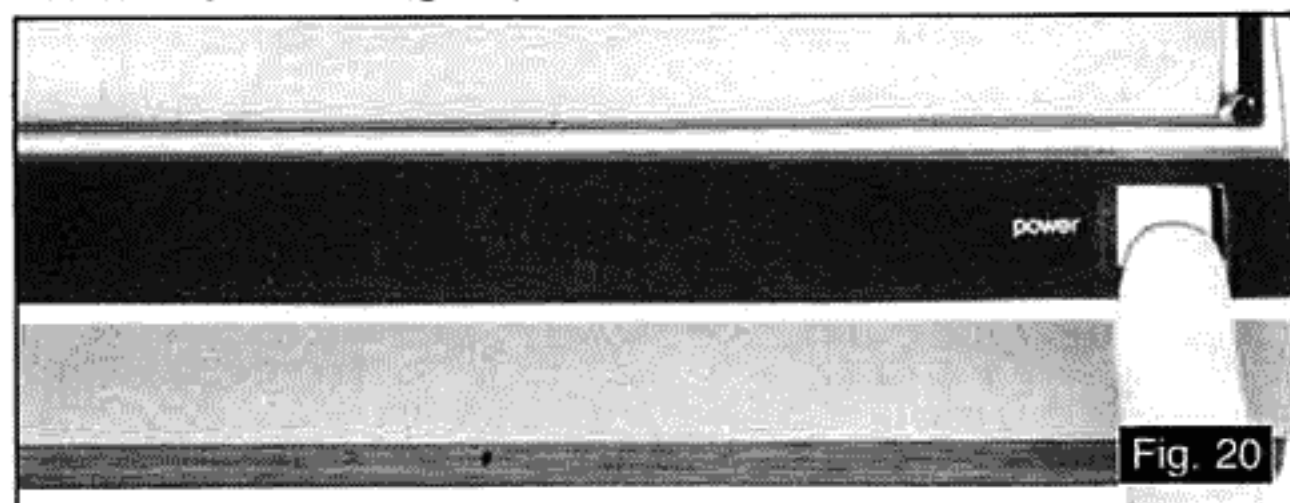

Fig. 20
- 1 Push the power switch to the ON position (■). (See Fig. 20.)